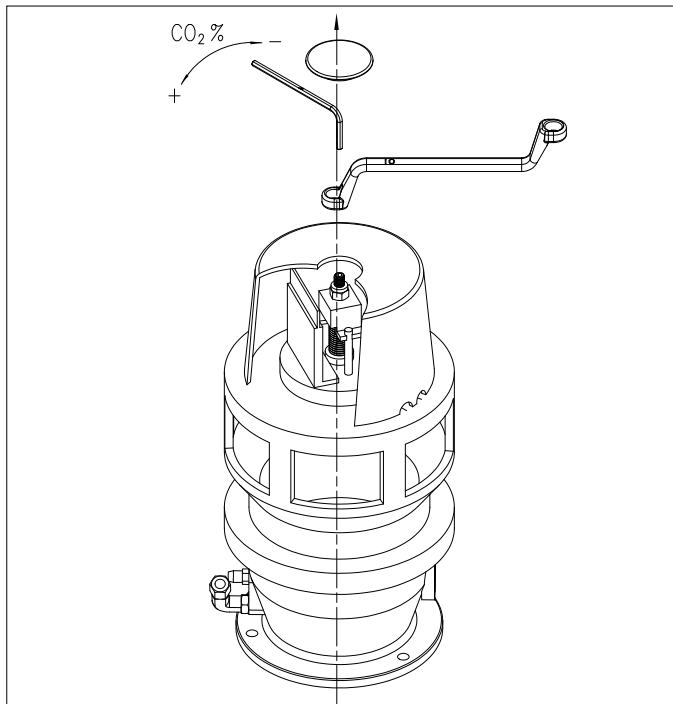

Fig. 23 Adjustment point CO2% / O2% IMS-system
- 16f. Check CO2-percentage (O2-percentage) against the table. Adjust if necessary using the adjustment screw on the IMS-system (see Fig. 23). Is the CO2-percentage too high (O2-percentage too low), turn the adjustment screw to the right, simultaneously holding the nut with a ringwrench. Is the CO2-percentage too low (O2-percentage too high), turn the screw to the left. Check the flame via the inspection window. The flame should be stable, mainly blue with burner surface covered by orange dots.